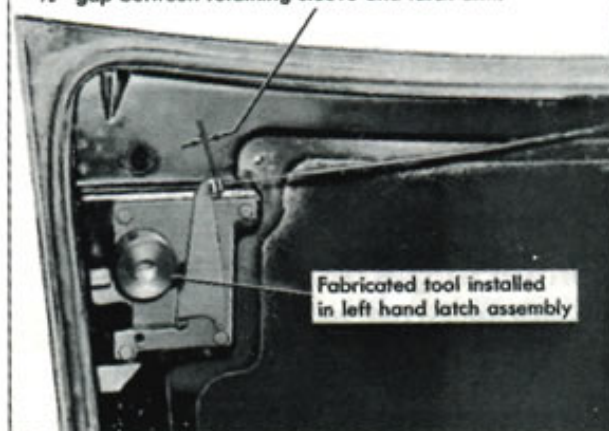

Fig. 3—Alignment Tool Installed
- Insert fabricated tool into left hand hood latch assembly as shown in Figure 3. The pressure of the lock will hold the tool in position.
3. On early built Corvettes which utilize retaining sleeves for lock cable adjustment, perform the following (reference Fig. 3):